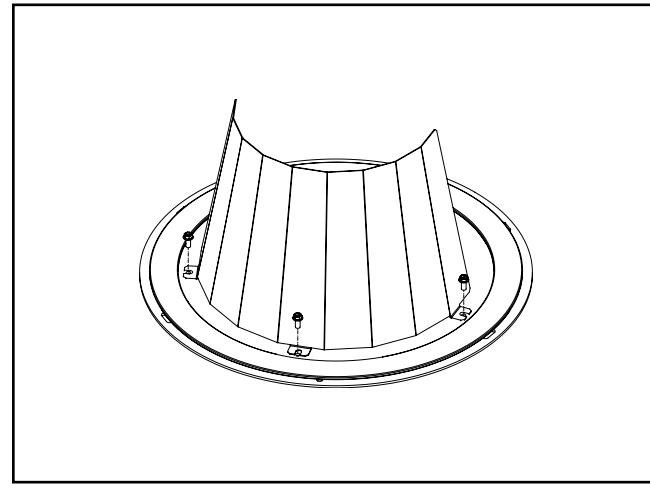

Figure 7.
- Fasten house side shield to cover plate with three #8-32 screws. (Figure 7)